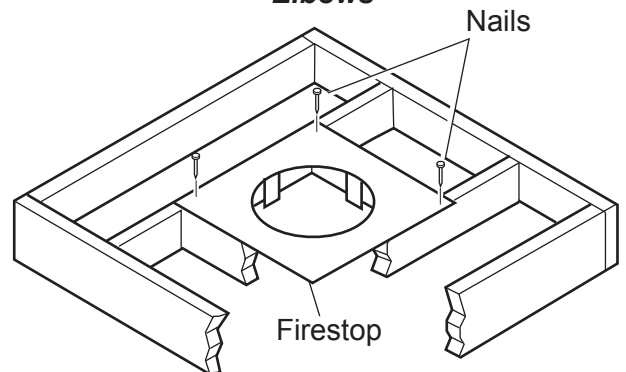
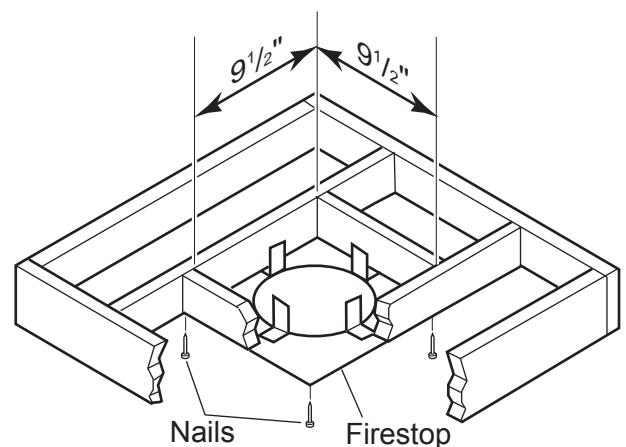

Figure 19 - If area above is a room, install firestop above framed hole as shown
Figure 20 - If area above is not a room, install firestop below framed hole as shown
1. Cut a 9¹/₂" (241 mm) square hole in the ceiling using the locating hole as a center point The opening should be framed to 9¹/₂"x9¹/₂" (241mm x 241mm) inside dimensions as shown in Figure 20 using framing lumber the same size as the ceiling joist. If the area above the ceiling is an insulated ceiling or a room, nail firestop from the top side. This prevents loose insulation from falling into the required clearance space. See Figure 19. Otherwise, install firestop below the framed hole. The firestop should be installed with no less than three nails per side. See Figure 20.